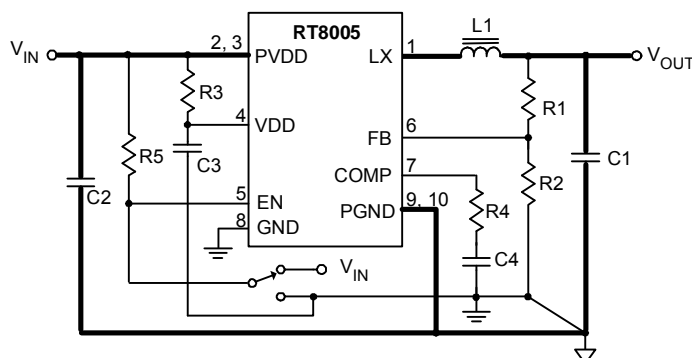

Figure 1
- } For the main current paths as indicated in bold lines in Figure 1, keep their traces short and wide.